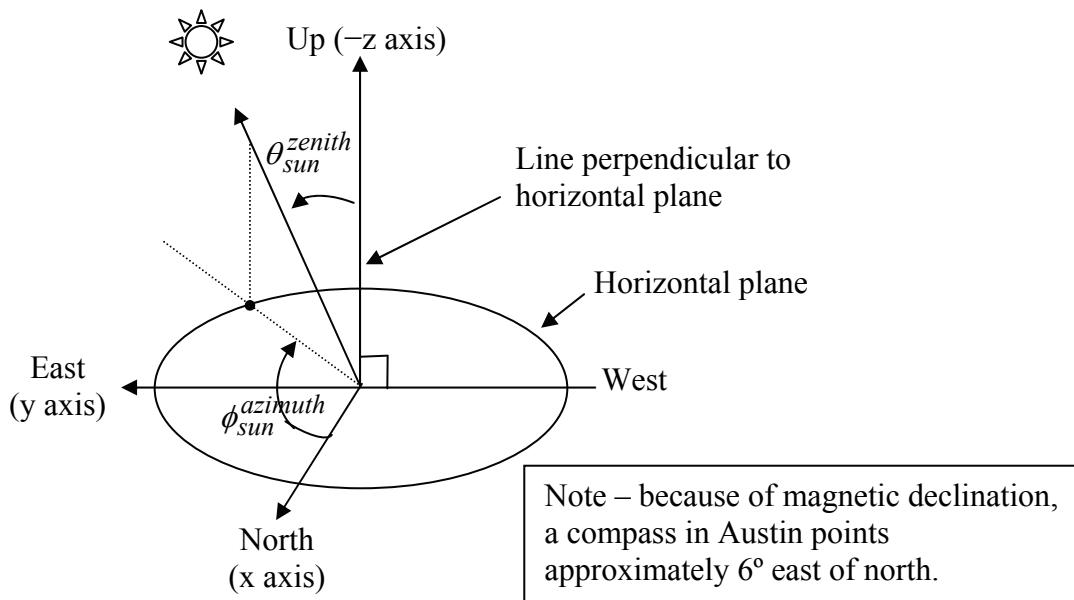

Figure 4. Sun Zenith and Azimuth Angles
The position of the sun in the sky varies dramatically with hour and season. Sun zenith angle $\theta_{\text{sun}}^{\text{zenith}}$ is expressed in degrees from vertical. Sun azimuth $\phi_{\text{sun}}^{\text{azimuth}}$ is expressed in degrees from true north. Sun zenith and azimuth angles are illustrated in Figure 4.
Equations (6) and (7) correspond to the projections, on the horizontal plane, of a vector pointing toward the sun. By examining Figure 4, $\phi_{sun}^{azimuth}$ can be found as follows:
Considering Figure 4, the unit vector pointed toward the sun is